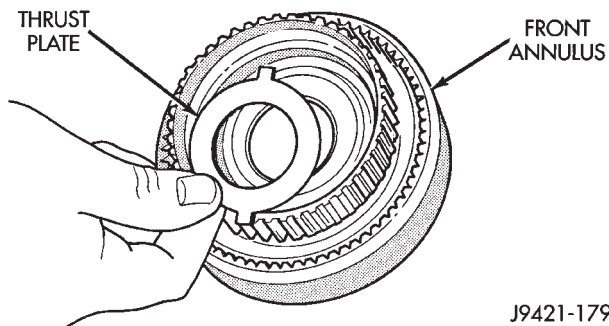

Fig. 239 Positioning Thrust Plate On Front Annulus Support
(18) Position thrust plate on front annulus gear support (Fig. 239). **Note that plate has two tabs on it. These tabs fit in notches of annulus hub.**